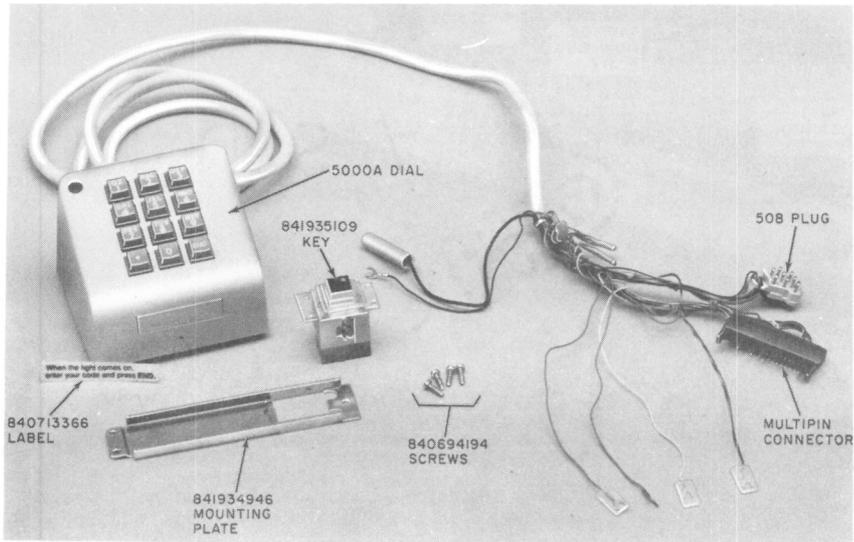

Fig. 6—D-180687 Kit of Parts
**Install** the D-180687 Kit of Parts (Fig. 6), which includes:
(1) Remove faceplate by lifting at the midpoints of the right and left edges. When faceplate